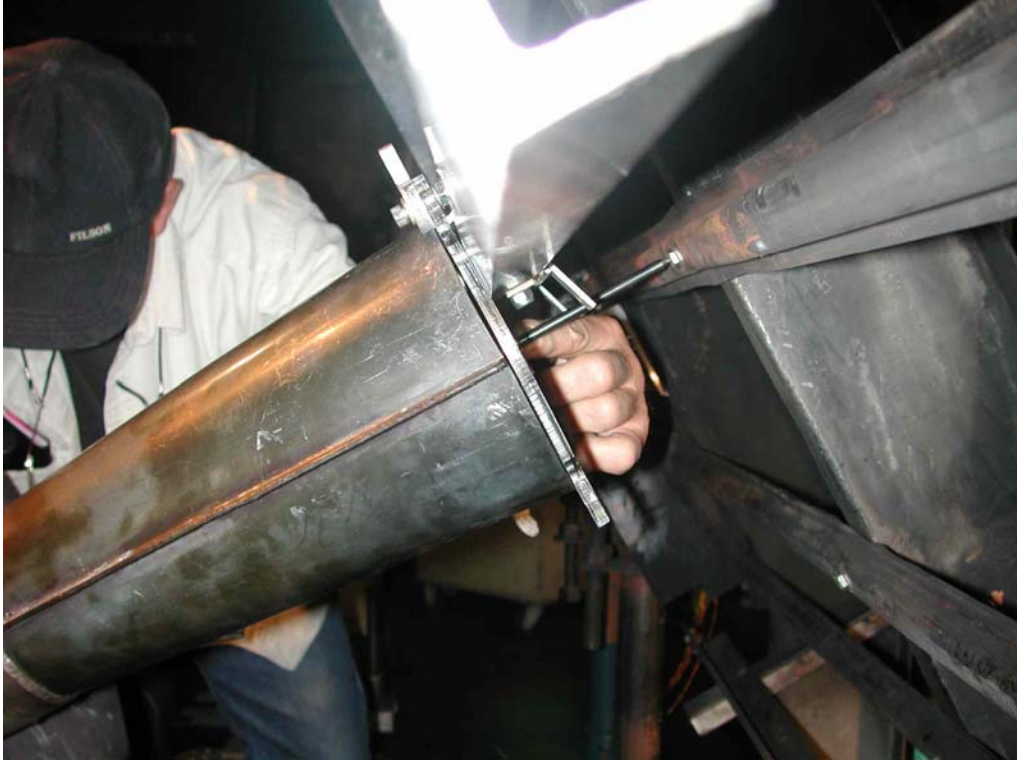

Figure 5: Setting Burner to Blanket Distance Using Bushing and Pointer
- Move burner to blanket burn position and check for height using bushing and pointer (see Figure 5). Pointer should hit center of target stringer.